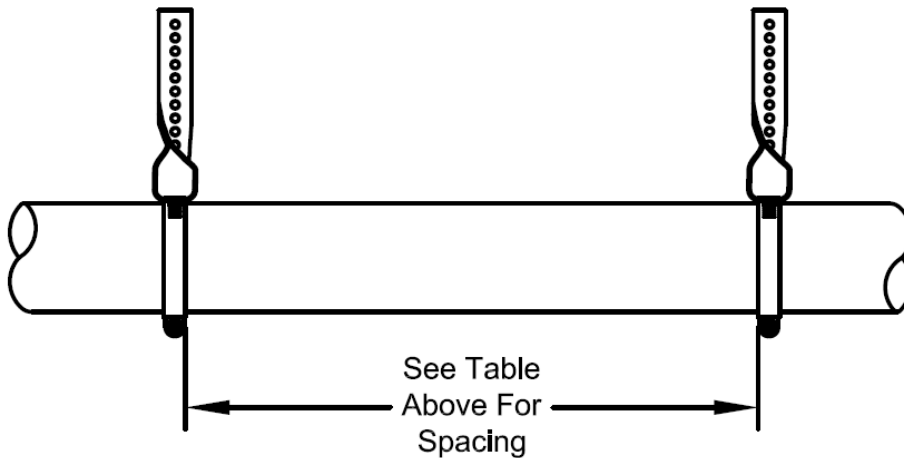

Figure 5
For proper installation, install horizontal pipe at a 3/8" rise per foot (31mm / 1000mm) upward pitch and place Polyflue Horizontal Supports (HS) at the required minimum intervals below. Pipe strap can be looped around relative hose clamp and secured to the side or underside of the joist beam using (2) wood screws (by others) (Fig 5).